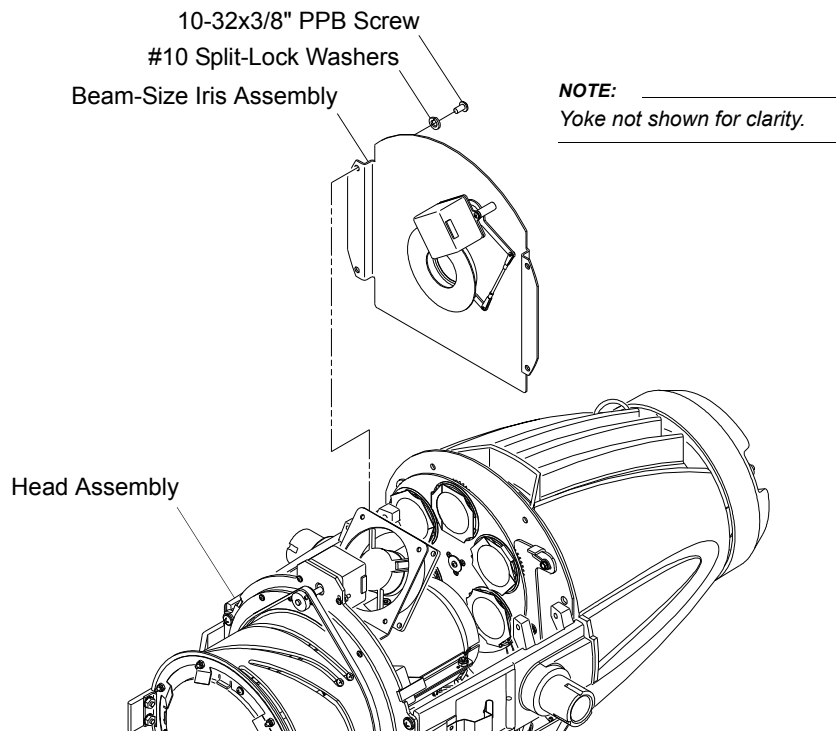

Figure 2-20: Beam-Size Iris Assembly Replacement
- Step 3. At beam-size iris assembly, disconnect motor connectors (**Figure 2-20**).